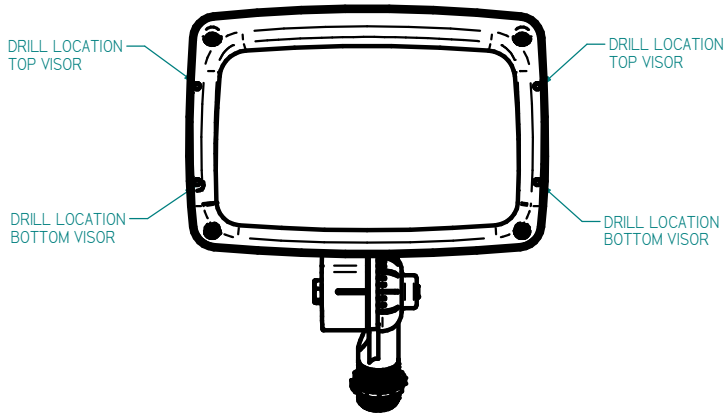
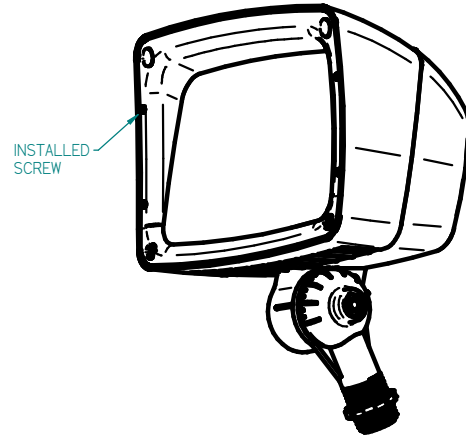

Fig. 2
Fig. 3
**Mounting The Visor (See Fig. 2 and Fig. 3)**
- Using an 1/8" diameter drill bit, drill the desired mounting locations as shown in Fig. 2.
- Mount the Visor with #4 machine screws, 3/8" long. There is a tapped hole underneath the clear lens. See Fig. 3.